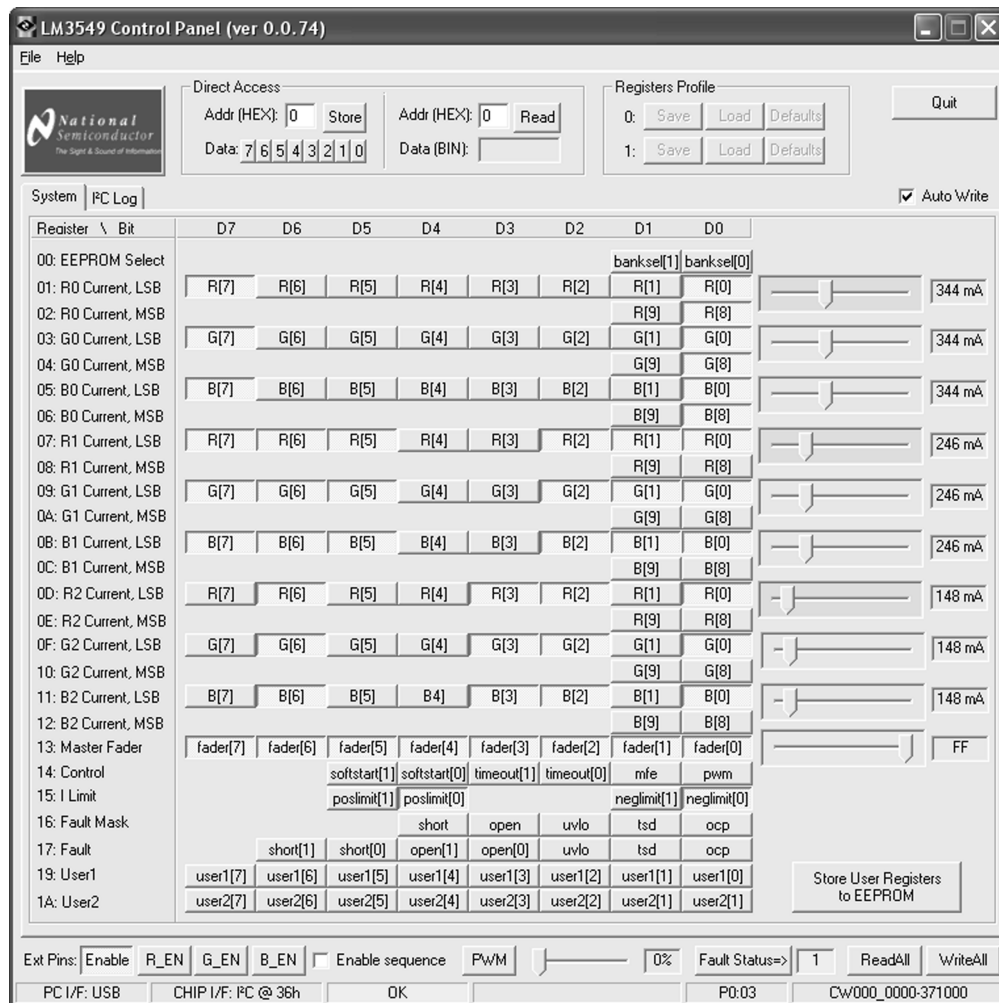

Figure 3. LM3549 Evaluation Software Control Panel
7. The evaluation kit is now fully up and running and the device can be controlled through the PC software. Figure 3 shows the evaluation software user interface (Control Panel).
Evaluation software doesn't need installation and can be run by double clicking the icon. If evaluation board is set up correctly, the evaluation software's user interface should look like in Figure 3. When software starts up, it sets the Enable control to "1" and reads the control register values. The Status bar at the center of the bottom row should say OK on green background. This indicates that I2C interface between microcontroller and LM3549 is working correctly. If there are any error messages on red background something is wrong with the I2C interface. In this case, check the control signal jumpers and verify that proper VDD voltage is applied to the board.